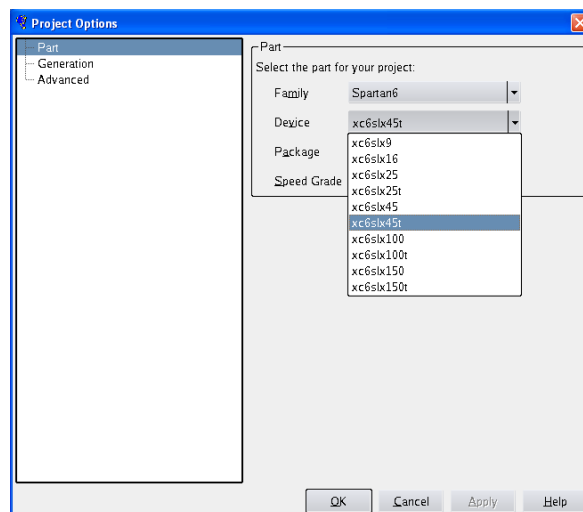

Figure 3-3: Target Architecture Setting
4. Select an appropriate package from the Package list. This example uses the XC6SLX45T device (see Figure 3-3).